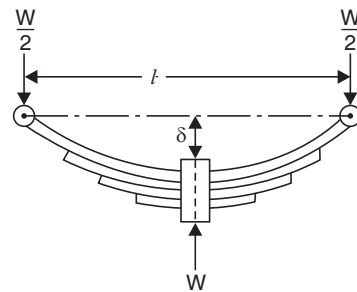

FIGURE 8.15
They consist of number of flat plates as shown in Fig. 8.15, connected in such a way that they can slide over the adjacent plates when load is applied on the spring. The plates are of equal width and thickness but are having different lengths so that the section modulus (Z) varies directly with the bending moment. These springs which are used in cars, lorries etc., get loaded at the ends and are supported in the middle.